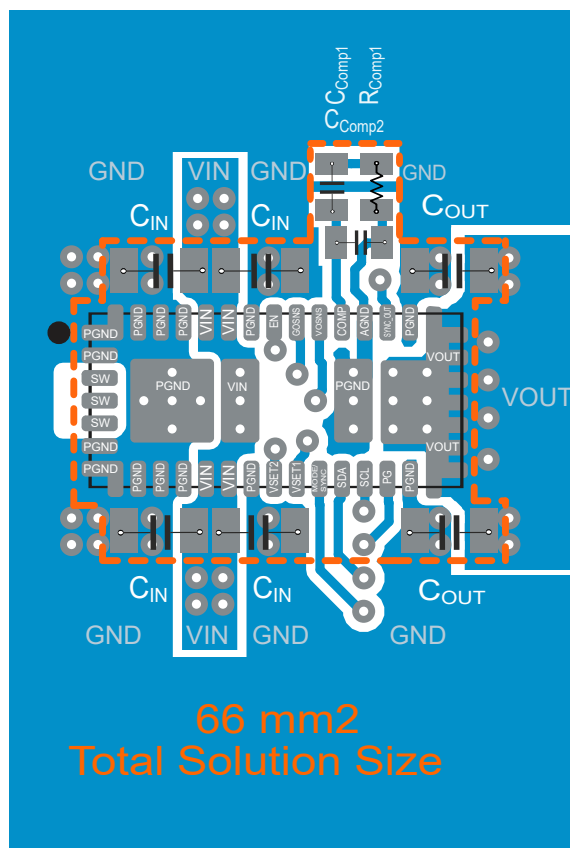

Figure 9-47. Layout Example
- Refer to Figure 9-47 for an example of component placement, routing, and thermal design.